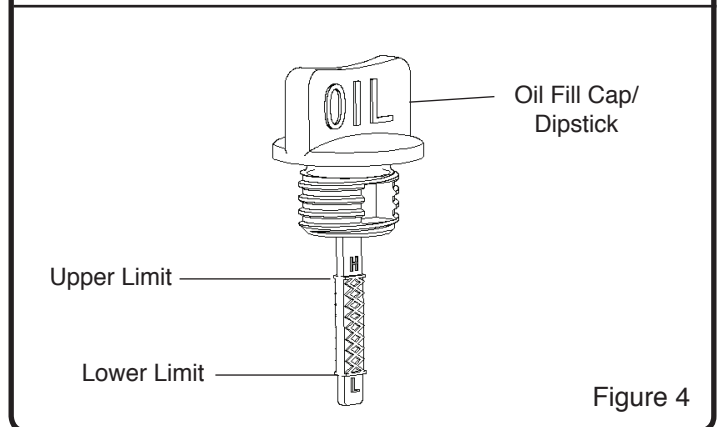

Figure 4
3. When oil level is full, the oil will be at upper limit on dipstick. If oil level is near or below the lower limit, oil must be added. (See Figure 4)